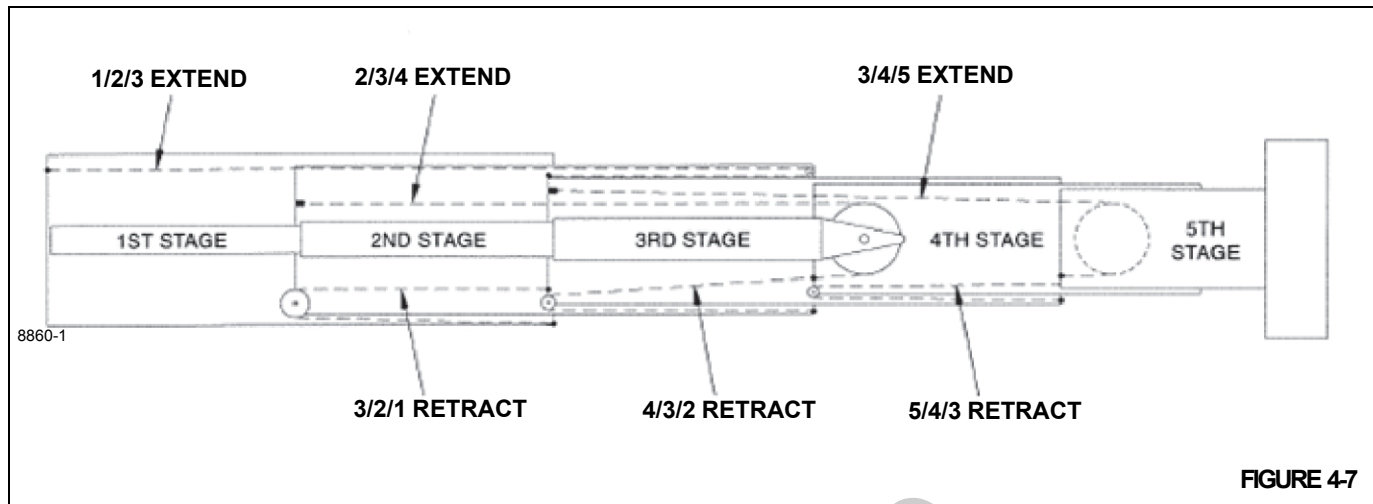

FIGURE 4-7
22. Install wear pad (112) and 4/3/2 retract cables (53) onto 4/3/2 retract cable keeper (79). Install 4/3/2 retract cable keeper (79) into anchor plates at the base of the fourth section boom and route threaded ends of 4/3/2 retract cables (53) down through the opening in the base of the 3rd section boom and pull threaded ends of 4/3/2 retract cables (57) toward tip of boom.
23. Install bearings (137) into 4/3/2 retract sheaves (34) and brush with chassis grease. Install snap rings, bushing, 4/3/2 retract sheaves, grease zerks and plugs onto 4/3/2 retract pin (38). Loop 4/3/2 retract cables (53) around 4/3/2 retract sheaves (34). Install 4/3/2 retract pin (38) into anchor plates at the base of the 3rd section boom.
24. Install retract cable guides (65) into the base of the 3rd section boom.
25. Lower the extend cylinder onto wear pad (112) on 4/3/2 retract cable keeper (79). Install the cable wear pad (132) on top of the extend cylinder barrel, then install the extend cylinder into the slots at the base of the 3rd section boom with keepers (134), capscrews (136) with Loctite ® and lockwashers.
26. Install two top wear pad mounting plates (202), wear pads (146), and cam plates (193), and one bottom wear pad (18) and shims (16) onto the base of the 3rd section boom. Install two side wear pads (42) and shims (68) onto the base of the 3rd section boom. Shim according to calibration instructions in this section.
27. Stretch 3/8 diameter, 1/2/3 extend cable (10) out, then bring threaded ends back together to form a loop and find the center of cable length. Slide this center loop from front to back through the cable anchor slot at base, top of the 3rd section boom. Slide the keeper sheave (141) into this slot from back to front so raised portion of sheave slides into slot of cable anchor plate. Pull this loop of cable forward to lock 1/2/3 extend cable (10) to 3rd section boom. Place the sheave case assembly (20) on top front of 3rd section boom with its top bar up and forward. Loop both threaded ends of cable toward back of boom to form two loops, left and right, at front of boom. Slide left and right loops into left and right sides of sheave case assembly. Install bearings (185) in sheaves (21), brush with chassis grease, install flattened end pins (22) in sheaves with grease feed holes toward the back of the boom and slide pins (with sheaves) into slots in front of sheave case assembly. Pull threaded cable ends toward base of boom and loop over base of boom.
28. Ensure 2nd section extend cylinder ears are horizontal. Raise and support 3rd/4th/5th section booms and install into 2nd section boom approximately 4.5 m (15 ft). Take care to keep 4/3/2 retract cables (53) taut, not crossing cables and keeping all cables clear of pinch points created by slings and bottom pads.
29. Raise 3rd/4th/5th section booms against the top of the second section boom and install wear pads (17) into the bottom tip of the 2nd section boom. Lower 3rd/4th/5th section booms onto wear pads in the 2nd section boom. Install 3rd/4th/5th section booms into 2nd section boom leaving approximately 1.21 m (4 ft) of 3rd/4th/5th section booms left out of second section boom.
30. Assemble 4/3/2 retract cable keeper plate assemblies (190) onto 4/3/2 retract cables (53), double nut just beyond flat on 4/3/2 retract cables and assemble at bottom tip of 2nd section boom. Take care not to cross cables.
31. Tape upper side wear pad (153) and side wear pad keepers (154, 189) together, then install wear pad/keeper assembly on front inside of 2nd section boom. Install lower side wear pads (96) with shims (13) on front inside of 2nd section boom. Install upper wear pad (184) with shims (183), cable guide (81) with wear pad (82, 84) and related hardware on the top front of 2nd section boom. Shim according to calibration instructions in this section. Slide 1/2/3 extend cable sheave case assembly (which is on the top tip of the 3rd section boom) into position in the 2nd section boom. Install grease zerks (59) into 1/2/3 extend sheave pins (22). Push 3rd/4th/5th section boom into the 2nd section boom until top wear pads on base of 3rd section boom are accessible through the access hole in the base of the 2nd section boom. Center the 3rd/4th/5th section booms within the 2nd section boom, then adjust the top wear pads according to the calibration instructions in this section. Push 3rd/4th/5th section booms into 2nd section boom until it bottoms out against cylinder ears and scribe a mark in the tip of the 3rd section boom in front of the side wear pad on the 2nd section, for retract sequencing (Figure 4-7). Install flatwashers and shoulder bolts (148) with Loctite ® to retain the 2nd section cylinder in the 2nd section boom.
32. Install wear pad (164) on top of 2/3/4 extend cable anchor assembly (163), then install 2/3/4 extend cable anchor assembly in slots at base top of 2nd section boom while guiding 2/3/4 extend cables (29) into anchor assembly. Install nuts and spacers (161) on threaded
41. Install cable guide (81) with wear pad (82) and related hardware on the top front of 1st section boom.
42. Push 2nd/3rd/4th/5th section boom into the 1st section boom until top wear pads on base of 2nd section boom are accessible through the access hole in the base of the 1st section boom. Center the 2nd/3rd/4th/5th section booms within the 1st section boom, then adjust the top wear pads according to the calibration instructions in this section. Push 2nd/3rd/4th/5th section booms completely into 1st section boom keeping 3/2/1 retract cables taut and scribe a mark in the tip of the 2nd section boom in front of the side wear pad on the 1st section, for retract sequencing (Figure 4-7). Attach 1st section cylinder rod to 1st section base plate with washer (7) and shoulder bolt (11) that has been torqued and Loctite® applied.
43. It is important in this step to have the nuts loose on the 3/2/1 retract cables (19) at the bottom tip of the 1st section boom. Install the 1/2/3 extend cables (10) into the holes at the base of the 1st section boom, double nut just beyond flats.
Cable tensioning (See Figure 4-7) to be in the following order:
Boom must be in horizontal position when adjusting cable tension (See Figure 4-7.) Retract boom fully ensuring sections are bottomed out on section stops and do not spring back. (Reference Tensioning Setup Procedure)